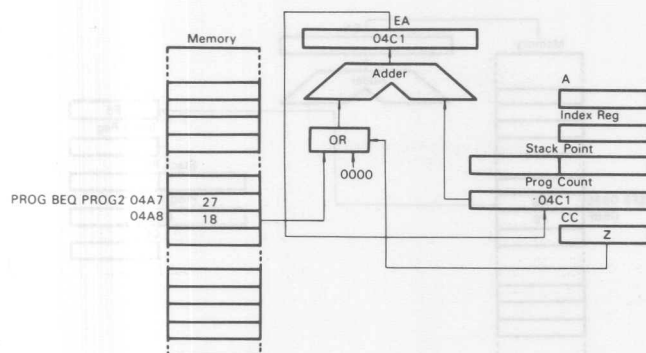

Figure 27 Example of Relative Addressing
See Fig. 27. The relative addressing mode is used with branch instructions only. When a branch occurs, the program counter is loaded with the contents of the byte following the operation code. $EA = (PC) + 2 + Rel.$, where Rel. indicates a signed 8-bit data following the operation code. If no branch occurs, Rel. = 0. When a branch occurs, the program jumps to any byte in the range +129 to -127. A branch instruction requires a length of 2 bytes.